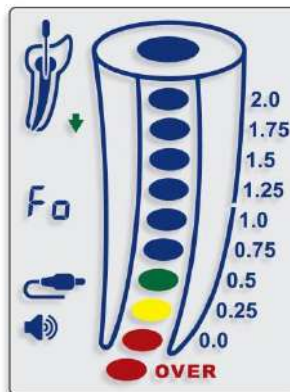

Fig. 11
- ⚠** The red OVER indication accompanied by frequent beeps indicates that the file tip has progressed beyond the foramen into the periapical region - 'Foramen over-instrumentation' (Fig. 11).